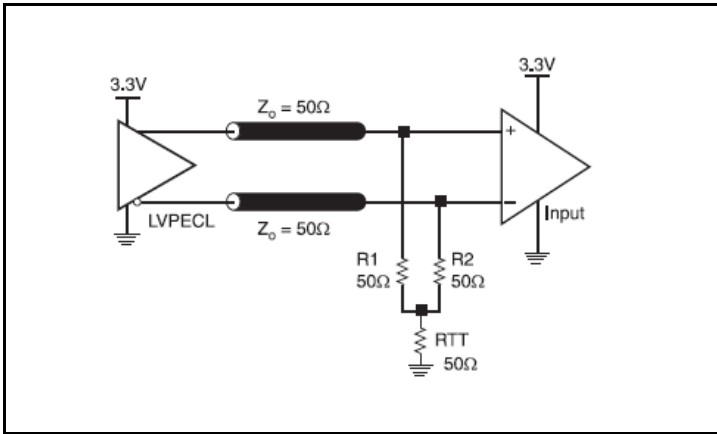
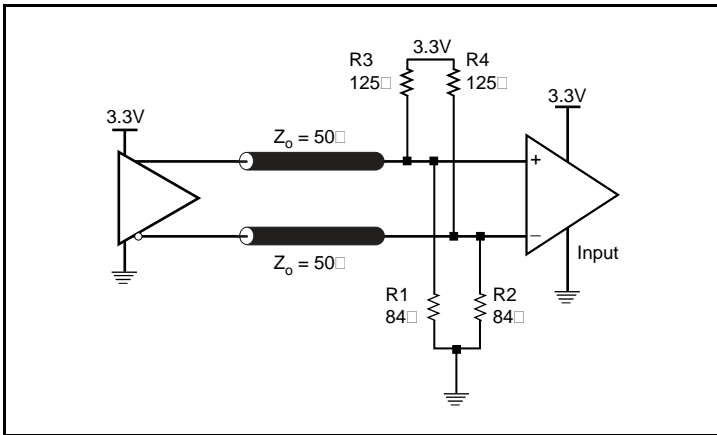
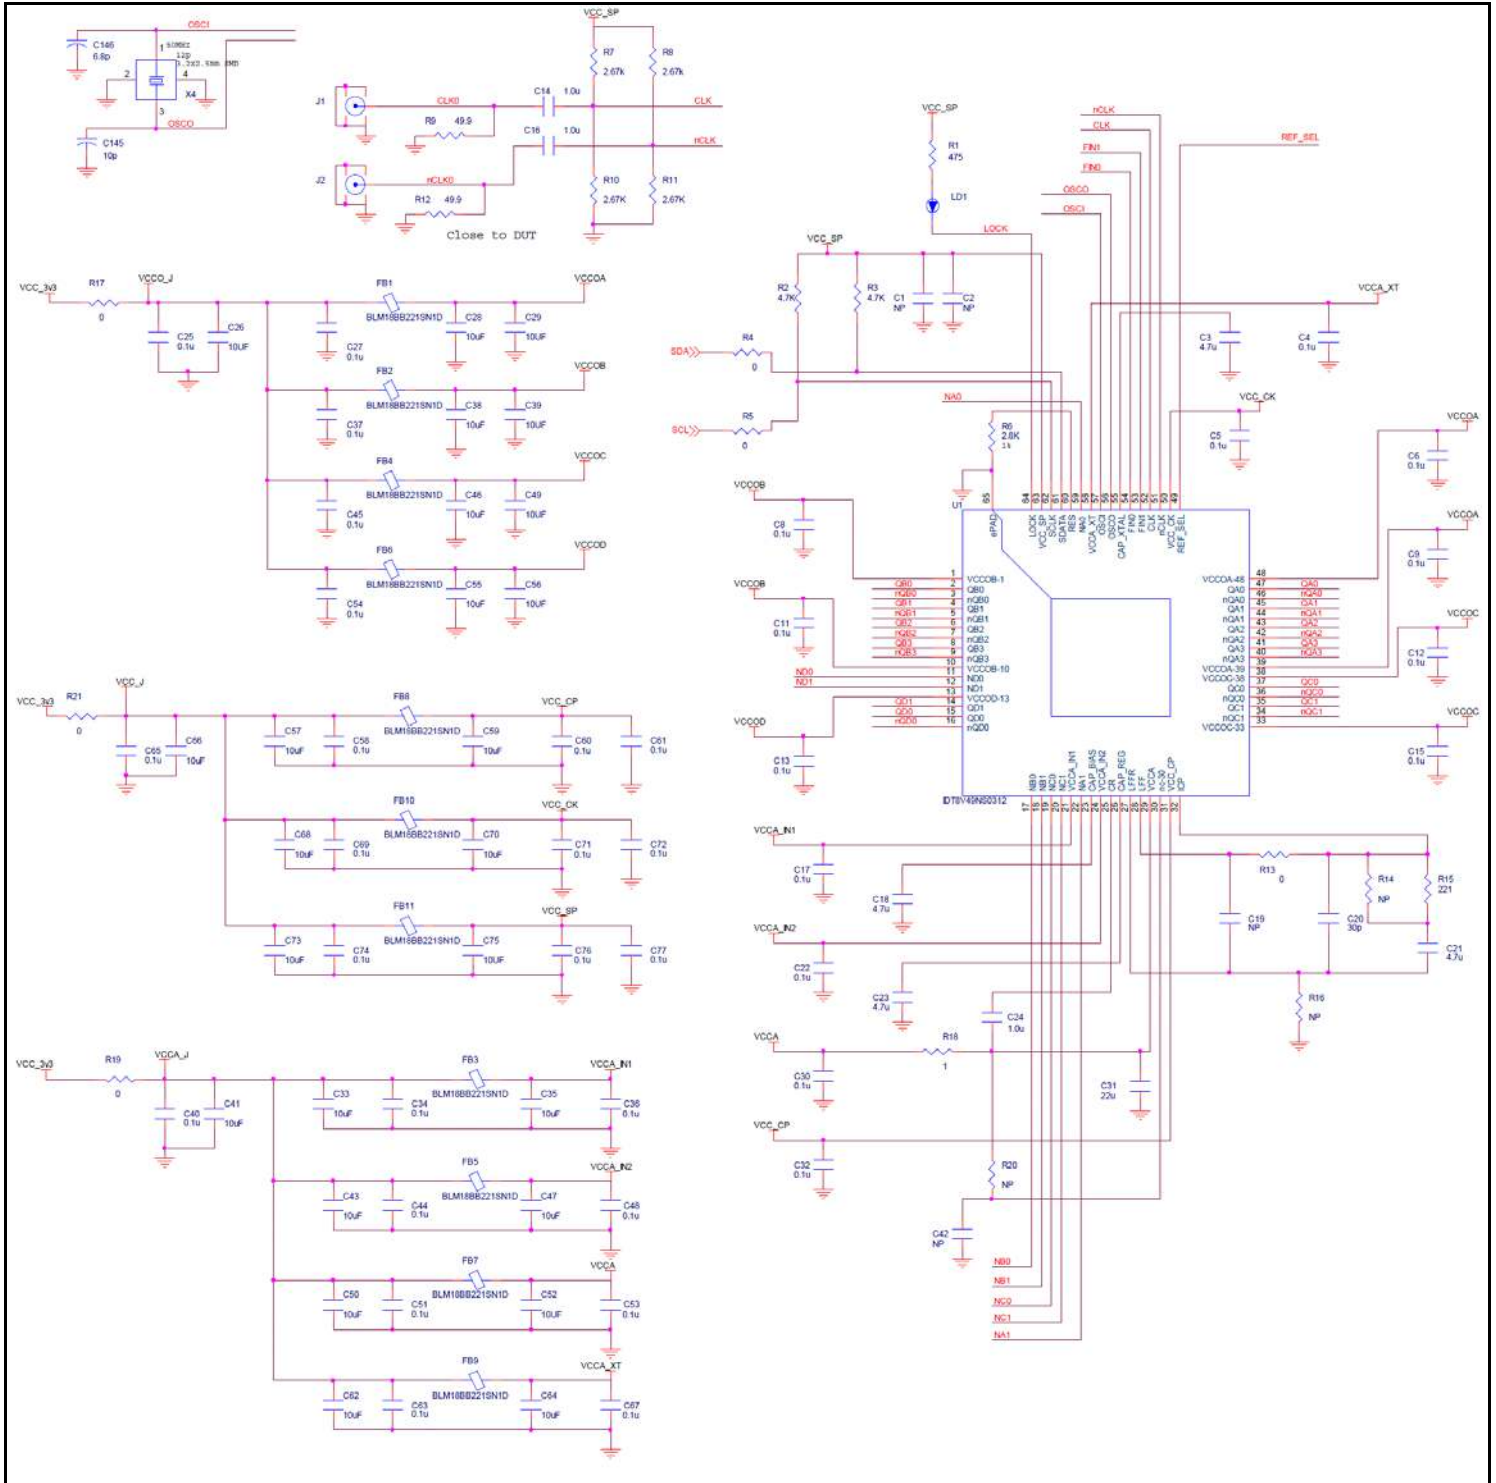

Figure 16: 3.3V LVPECL Output Termination
Figure 17: 3.3V LVPECL Output Termination
Figure 19: 8V49NS0312 Application Schematic
operating frequency and minimize signal distortion. *Figure 16* and *Figure 17* show two different layouts which are recommended only as guidelines. Other suitable clock layouts may exist and it would be recommended that the board designers simulate to guarantee compatibility across all printed circuit and clock component process variations.
*Figure 16* and *Figure 19* show two different LVPECL termination schemes for 750mV amplitude setting which are recommended only as guidelines. Recommended values of R1/R2/R3/R4 for LVPECL termination (*Figure 19*; Thevenin Equivalent) for 350mV and 500mV amplitude settings can be found in the following table.
*Figure 19* shows an example 8V49NS0312 application schematic operating the device at  $V_{CC} = 3.3V$ . This example focuses on functional connections and is not configuration specific. Refer to the pin description and functional tables in the datasheet to ensure that the logic control inputs are properly set for the application.